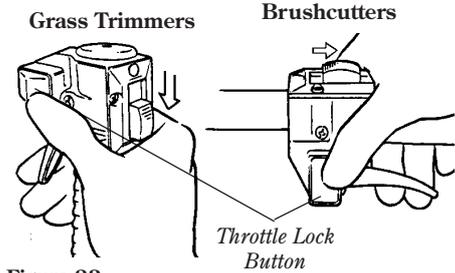

Figure 23
1. Slide the ignition switch to the "ON" position. See Figure 23.
- c. While depressing the throttle lock button, release the throttle lever. See Figure 23.